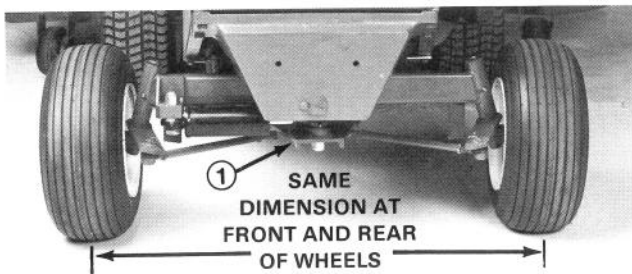

Figure 46
2. Loosen the jam nuts on both tie rods. Adjust both tie rods until center-to-center distance at front and back of rear wheels is the same (Fig. 46).